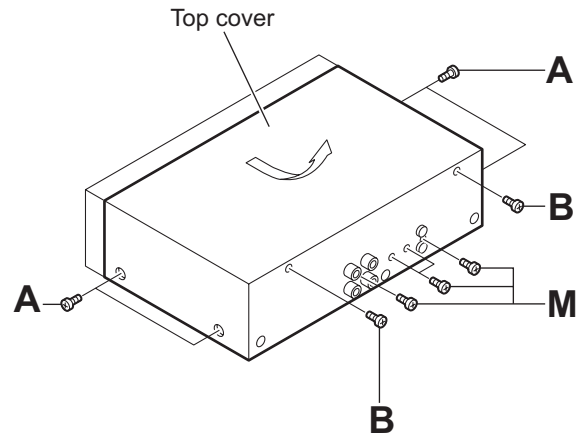

Fig.1
3.1.1 Removing the top cover (See Fig.1)
- (1) Remove four screws **A** retaining the top cover from both side.
- (2) Remove two screws **B** retaining the top cover from the back side.
- (3) To remove the top cover, slide in direction of arrow and lift away (refer to Fig.1).